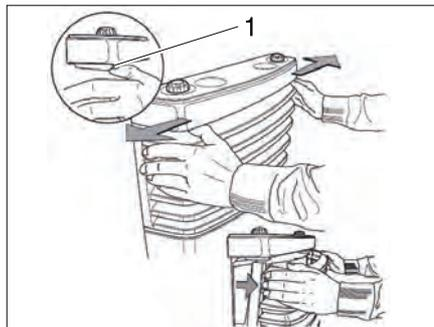

Fig. 109 Removing the heater cover
- Remove the heater cover. To do so, push the locking springs (Fig. 109,1) sideways and outwards, swivel the cover forwards and lift it out of the lower brackets.